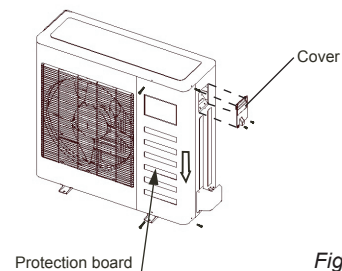

Fig 8.1
- Disassemble the cover.(If there isn't a cover on the outdoor unit, disassemble the screw from the maintenance board, and pull it in the direction of the arrow to remove the protection board.) (Refer to Fig 8.1)